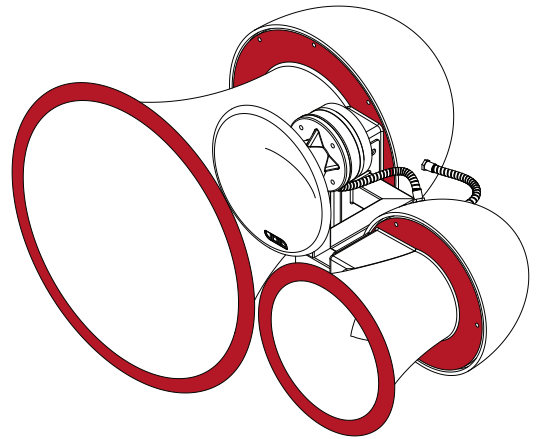

Figure 3.1: Safe handling positions diagram (as indicated in red)
- To remove from the transport case, each person should hold the Air Motion on each side, with one hand on the edge of the horn flare, and the other supporting the weight of the drivers to the rear, as shown in figure 3.1